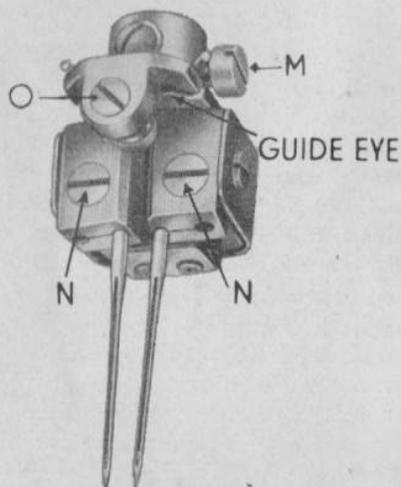

FIG. 56
two-needle clamp (fig. 56) on needle bar as far as it will go.
*b. Inserting new Needle in Two Needle Clamp:* To remove old needles, loosen needle set screw (N), shown in fig. 56. New needles must be inserted with *long* groove facing the user. (The needles' eyes must be in the direction of sewing.) Push needles up into needle clamp as far as they will go. Tighten needle set screws (N) securely and convince yourself that both needle eyes are on the same level and face forward. To determine the correct size of needles and thread consult table on page 4.
to left through its own individual hole in the take-up lever. Run threads downward along the side of the face plate through the two guides thereon. Then pull threads from behind through the left and right guide eyes in front of the two-needle clamp (fig. 56) thread the needles from front to back.
*d. Adjusting the Needle Distance:* The distance between the two needles can be varied from about  $\frac{5}{64}$ " to more than  $\frac{3}{16}$ " by turning screw (O) at the front of the needle holder (fig. 56). When sewing thin material, keep needle distance as small as possible. On heavier goods use greater needle distance.